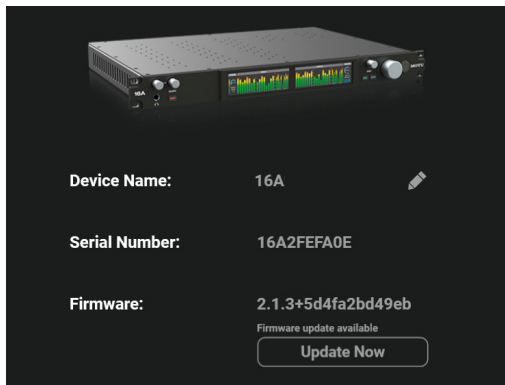

Figure 6-17: Go to the Device tab to see if there is a firmware update available.
- 2 Go to the Device tab and look at the *Firmware* setting (Figure 6-17).
- 3 If your computer has access to the internet, and there is a firmware update available, you'll see the *Update Now* button (Figure 6-17). Click it to update your firmware.